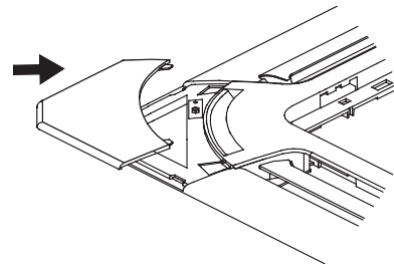

Fig. 10.6
6. Fasten the installation covers at all four corners by pushing them inwards (see Fig.10.6).